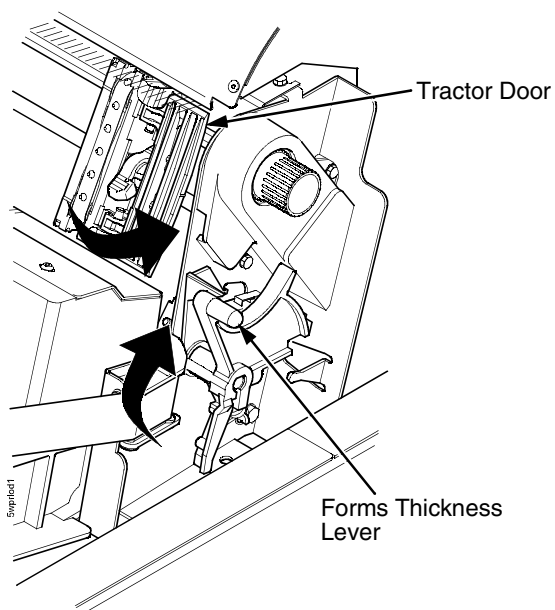

Figure 37. Forms Thickness Lever
2. Raise the forms thickness lever as far as it will go. See Figure 37.
3. Open the tractor doors. See Figure 37.